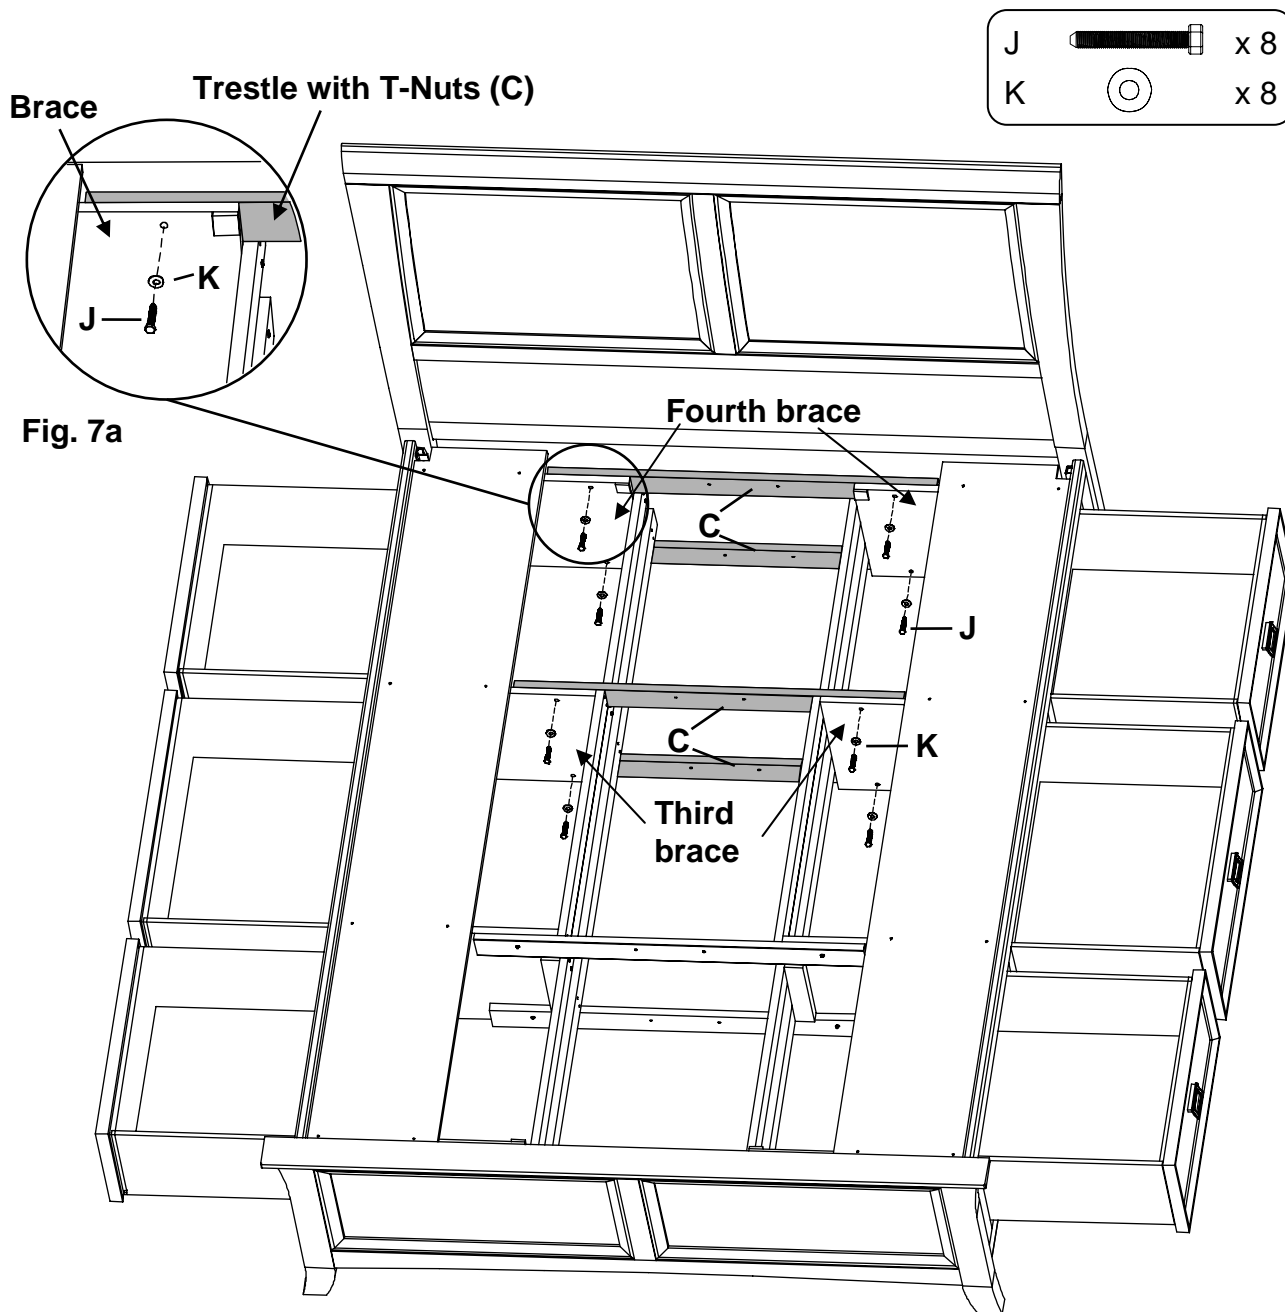

Fig. 7
7. Face the Headboard and stand in between the third and fourth braces. Place a Trestle with T-Nuts (C) on the outside surfaces of the third **upper** left and right braces so the T-nuts sit near the top. See Figures 7 and 7a. Line up the upper edges of the trestle and braces so they are nearly flush. Insert two 1/4" x 1-3/4" Hex Bolts (J) and Washers (K) and tighten. Repeat for the fourth brace.
Place a Trestle with T-Nuts on the outside surface of the third left and right **lower** braces so that the T-nuts sit near the bottom. Line up the bottom edges of the trestle and braces so they are nearly flush. Insert two 1/4" x 1-3/4" Hex Bolts (J) and Washers (K) and tighten. See Figures 7 and 7a.